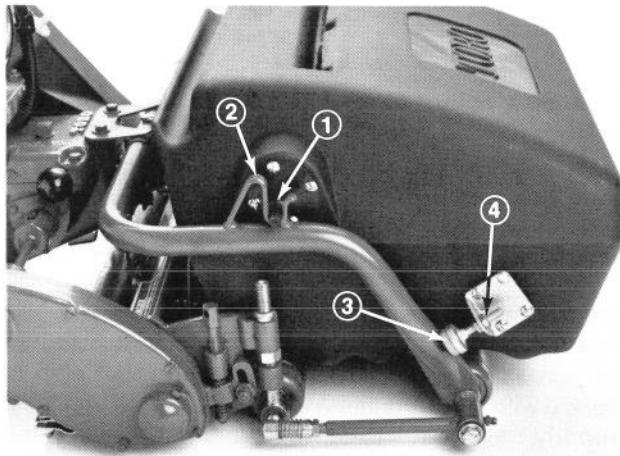

Figure 15
1. Set pins on basket pivots into brackets on yoke and allow basket adjusting brackets to rest onto yoke (Fig. 15).
**Note:** Basket should be lower in front to assist clipping throw into basket. Adjust brackets to lower basket (Fig. 15). Make sure basket clears roller by at least 1/16 in. (1.6 mm).
3. Loosen jam nuts on each side of basket and rotate adjusting brackets (Fig. 15). Be sure dimension is equal on both ends of unit and tighten jam nuts.